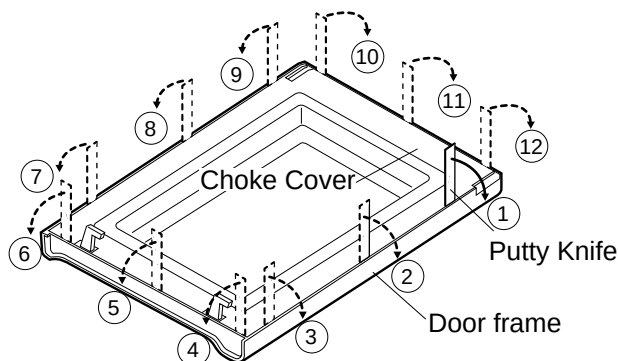

Figure C-6. Door Disassembly
3. Insert an putty knife (thickness of about 0.5mm) into the gap between the choke cover and corner portion of door frame as shown Figure C-6 to free engaging parts.
4. Try the principles of the lever and lift up the choke cover by inserting a putty knife as shown Figure C-6.
7. Release two (2) pins of door panel from two (2) hole of upper and lower oven hinges by lifting up.
9. Remove the two (2) screws holding the door panel to the door frame.
10. Release door panel from nine (9) tabs of door frame by sliding door panel downward.